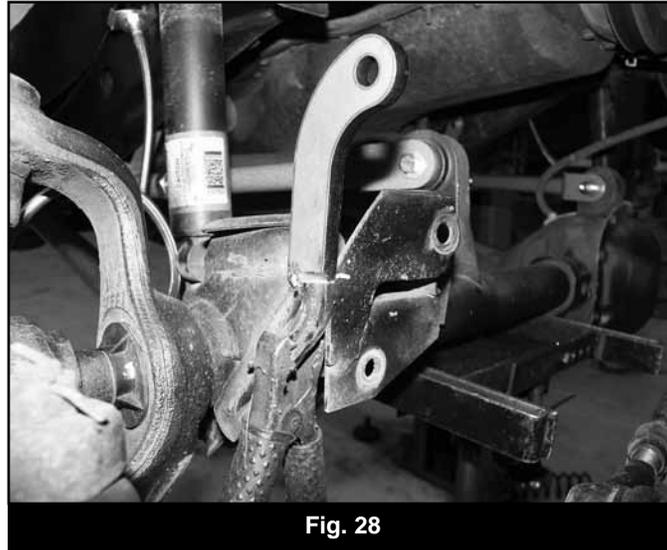

Fig. 28
70. Repeat the link setup procedure on the passenger's side of the vehicle (Fig 28). With both pieces tacked in place check the relationship between the two mounts to see that they are the same. Measure the inside distance between the tops of the links and the bottoms of the links to see that they are the same (approximately 38-1/2").